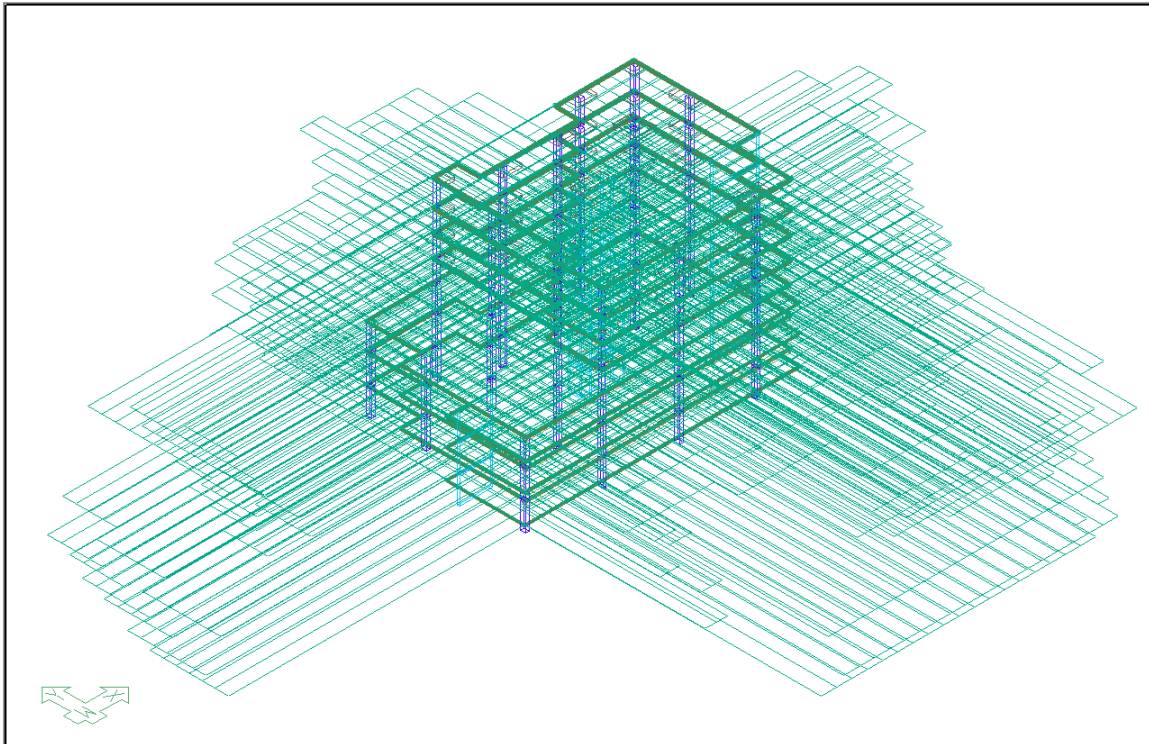

FIGURE 11-2
- After the dialog window closes the line loads representing the wind load cases will be shown as in **FIGURE 11-2**.